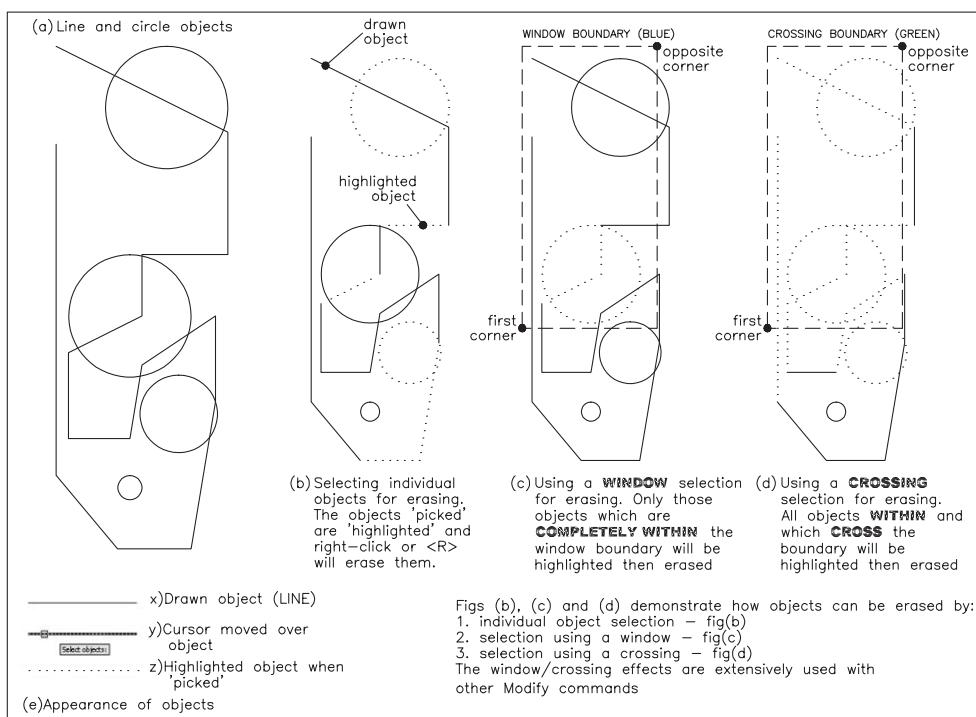

Figure 3.4 Line and circle objects for use with the draw, erase and selection set exercise.
- 6 Figure 3.4(a) displays some AutoCAD line and circle objects.
- 3 Ensure you still have several lines and circles on the screen. Figure 3.4(a) is meant as a guide only.
- 7 Figure 3.4(b) demonstrates the individual object selection erase effect.
- 1 When a Modify command is active (e.g. Erase) AutoCAD will display objects darker in appearance as the on-screen cursor is passed over these objects. This effect is illustrated in Figure 3.4(e) with:
To demonstrate the window effect, ensure you have several objects (about 20) on the screen and refer to Figure 3.4(c).
- 5 The objects highlighted will be erased – Figure 3.4(d).
- 3 Figure 3.4 demonstrates the single object selection method as well as the window and crossing methods for erasing objects.